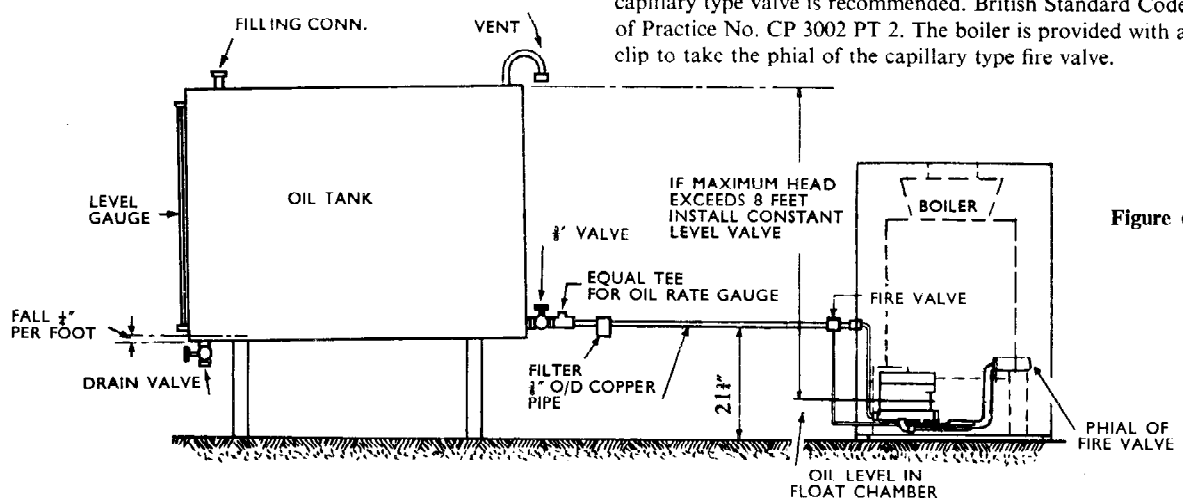

Figure 6
The burning rate can be checked with an oil rate gauge as shown in Fig. 6 and explained below.
4. The tank should be set with a fall of not less than ¼" per foot length, towards the drain plug or valve (Fig. 6).
If the head of oil exceeds 8 feet (see Fig. 6) it is necessary to use a constant head valve to provide and maintain a constant pressure head of oil in the supply line to the burner. This valve must be installed so that the oil will be continuously supplied to the float chamber of the oil control, so permitting the action of the float and needle-valve mechanism to maintain the proper oil level.
Fig. 6 gives a typical layout for oil tanks and supply line. The fittings required on an oil supply line are:
(d) A Fire Valve is supplied with each boiler (as an extra) and provision is made on the boiler for it. It should be positioned as in Fig. 6. The shut-off temperature is 150°F. The phial should be located in the clip provided on the front right hand leg and the valve should be fitted as near to the oil pipe entry into the building as the capillary will allow.